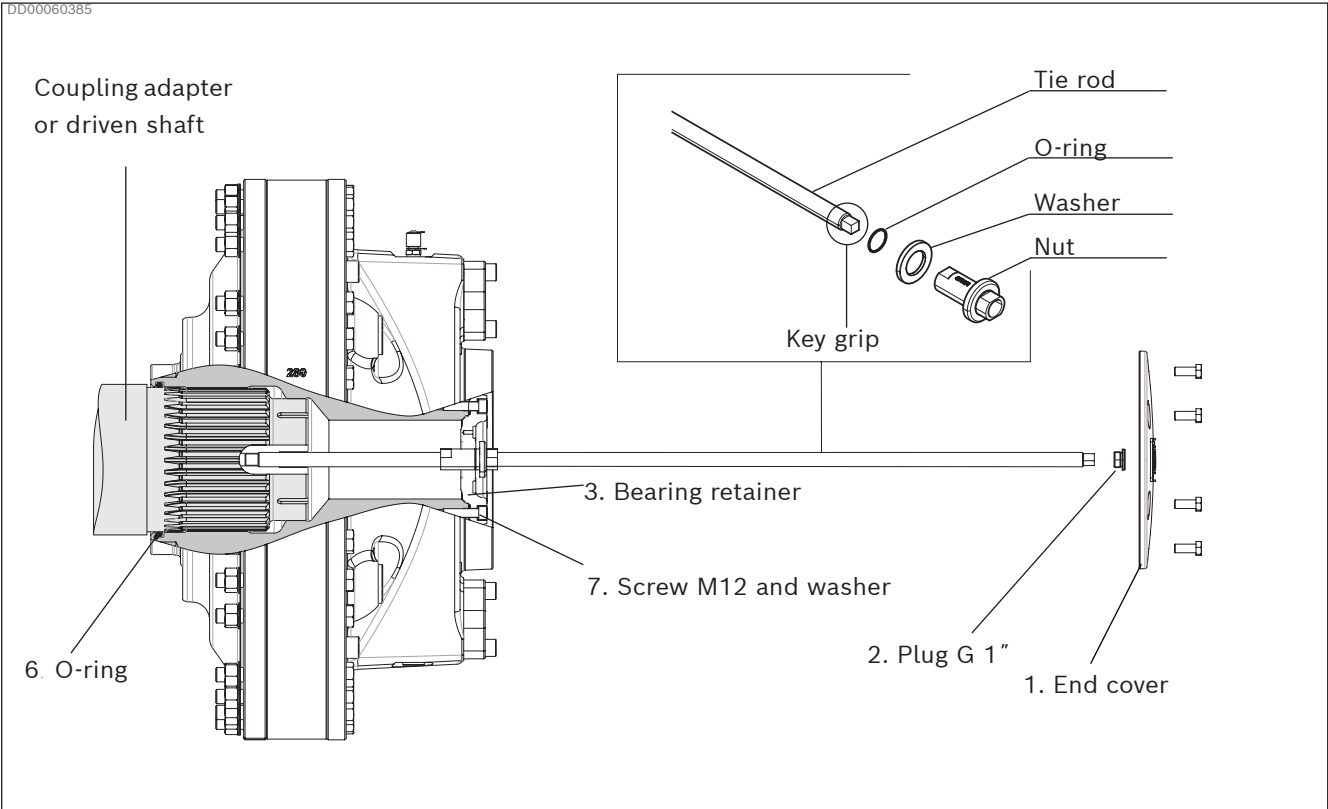
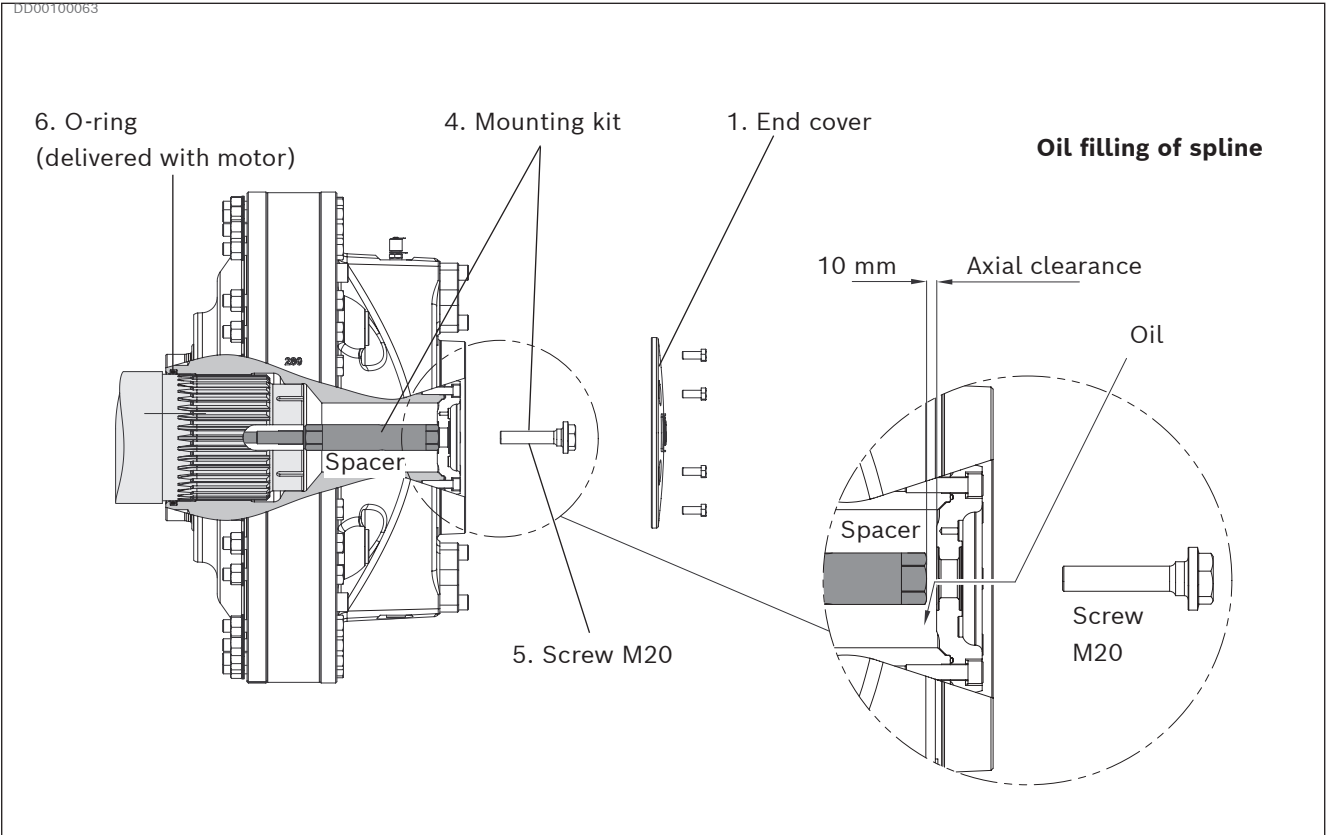

Fig. 41: Mounting spline motor with assembly tool
Fig. 42: Fix the spline motor with the mounting kit, horizontal mounting
This instruction is related to the pictures *Fig. 41, Fig. 42*.
14. Remount bearing retainer (3) with oiled screws M12 and washers (7). Torque 136 Nm (100 lbf-ft).
15. Fill up with hydraulic oil to the G 1" thread. Axial clearance 10 mm [0,4 in] during filling, see *Fig. 42*. Oil volume, see *Table 16*.
16. Fix the motor to the driven shaft by mounting the screw M20 (5). Torque 385 Nm (284 lbf-ft).
17. Remount the end cover (1). Torque 80 Nm (59 lbf-ft).